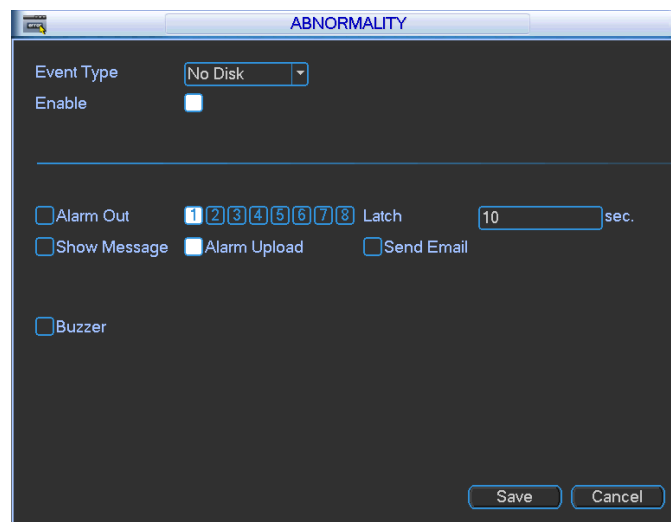

Figure 3-60
- Alarm set: Click alarm set button, the interface is shown as below. See Figure 3-60. (This interface is just like the abnormality setup). Please refer to chapter 3.6.2 for detailed information.